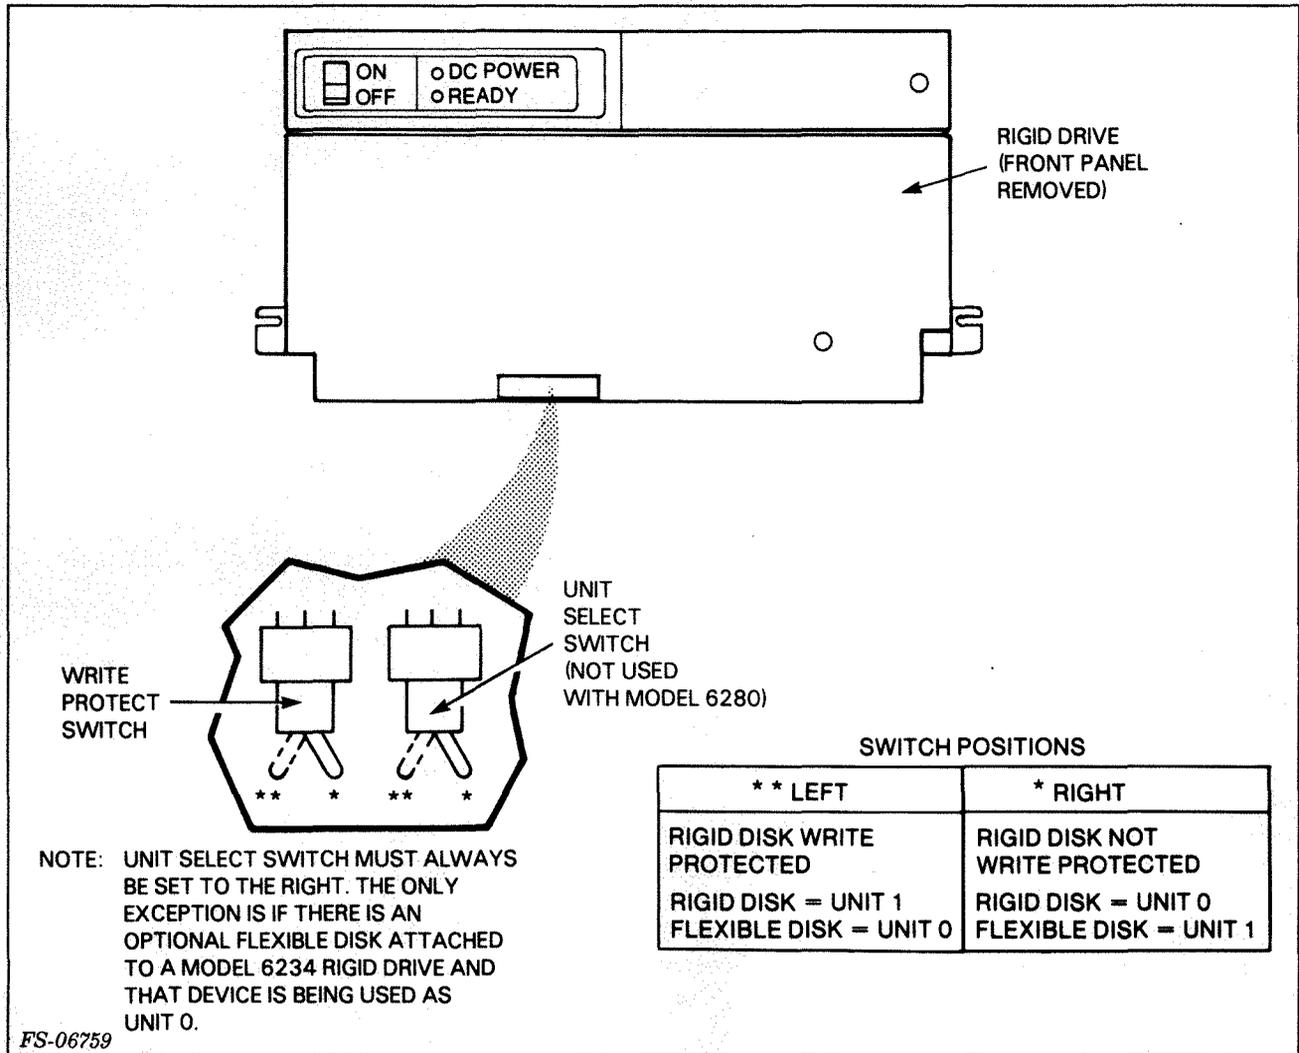

Figure 4-1. UNIT SELECT and WRITE PROTECT Switches
5. Remove the top and bottom covers of the disk drive and the front panel see subsections 5.2 and 5.3. Make sure that the UNIT SELECT and WRITE PROTECT switches are in the correct positions as shown in Figure 4-1.